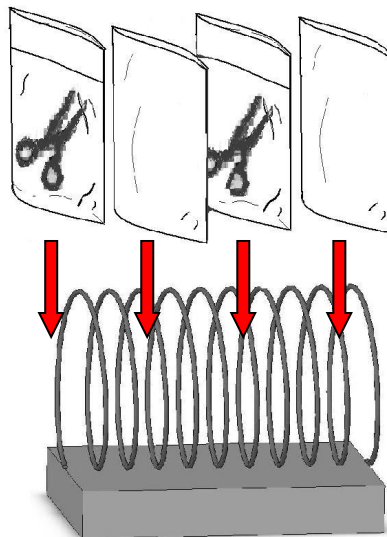
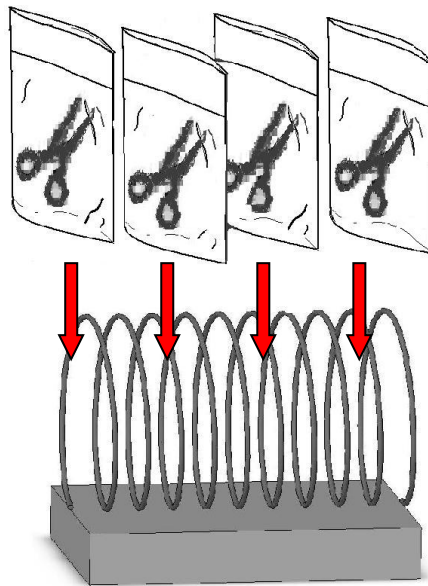

Figure 22
Figure 23
**⚠ Warning:** We suggest using Spring Holder for items with sterilizing pouches to assure sterilization result. Follow Figure 22 or Figure 23 to place each pouch separately. Spring holder is available as an optional accessory.